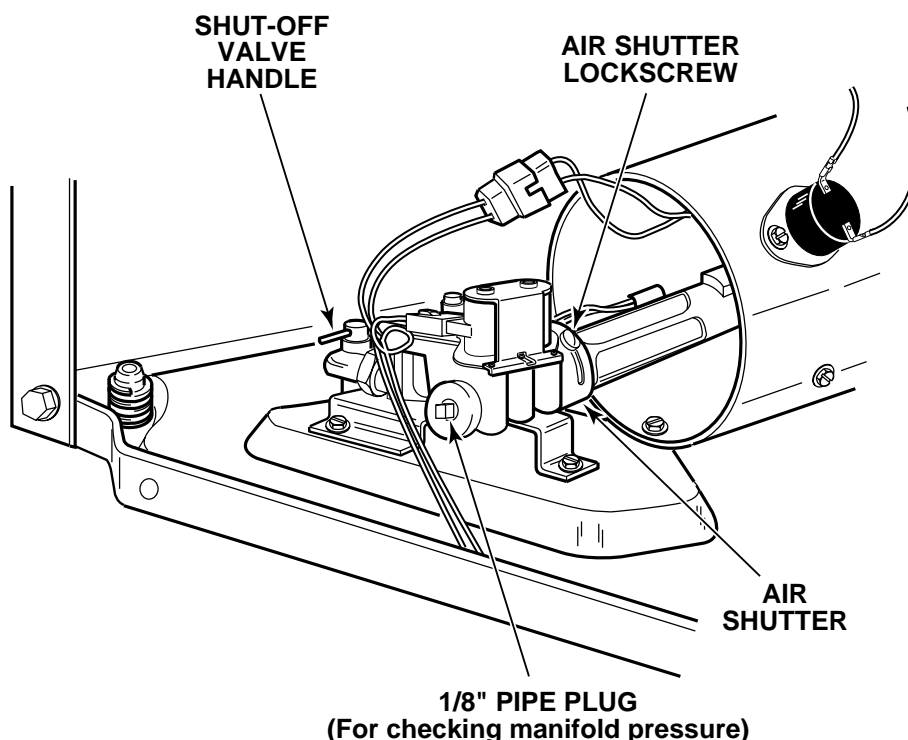

Figure 57
- After proper flame is obtained, tighten air shutter lock screw firmly. See *Figure 57*.
- Close main gas shut-off valve. See *Figure 57*.